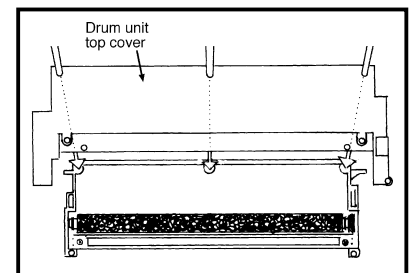

Figure 2
d. Remove top cover (Fig 2). Clean unit of all waste toner.